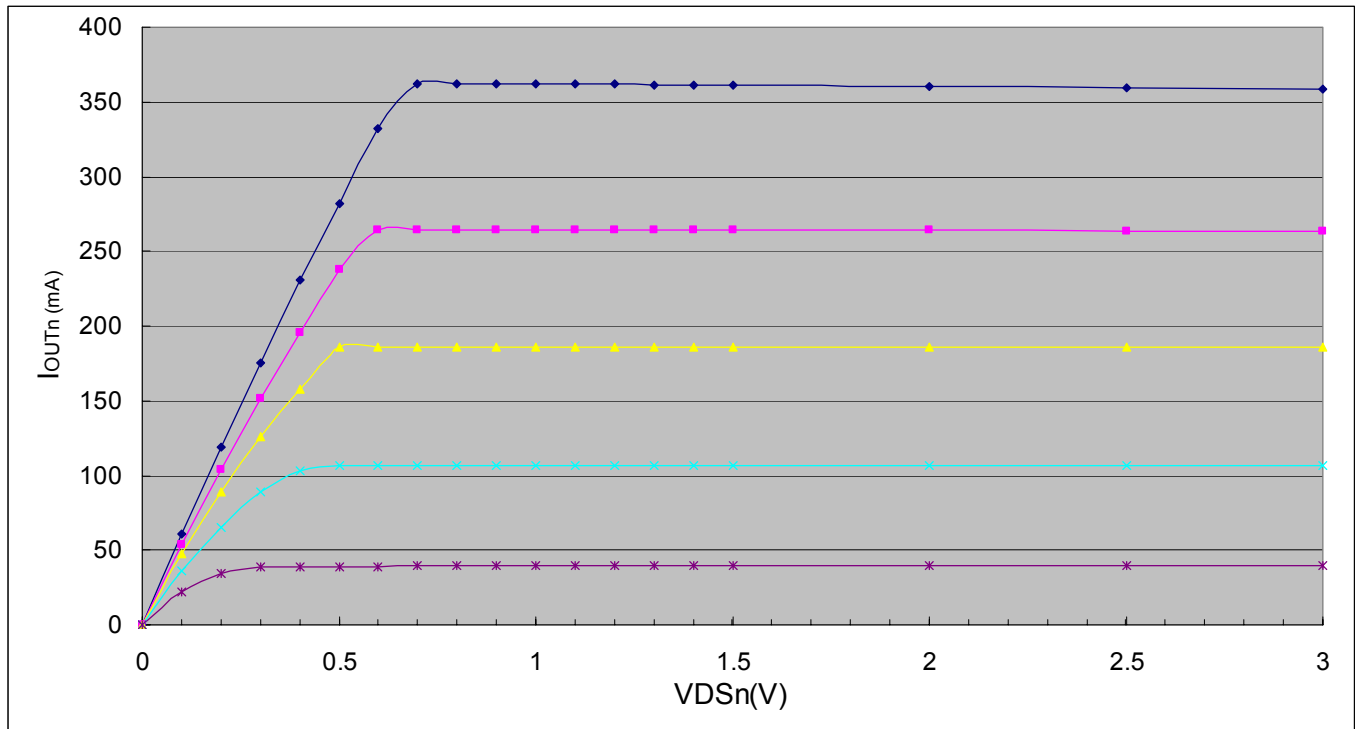

Figure 9
- 2) In addition, the current characteristic of output stage is flat as shown in Figure 9. The output current can be kept constant regardless of the variations of LED forward voltages (V_F). This guarantees LED to perform the same brightness as user's specification.